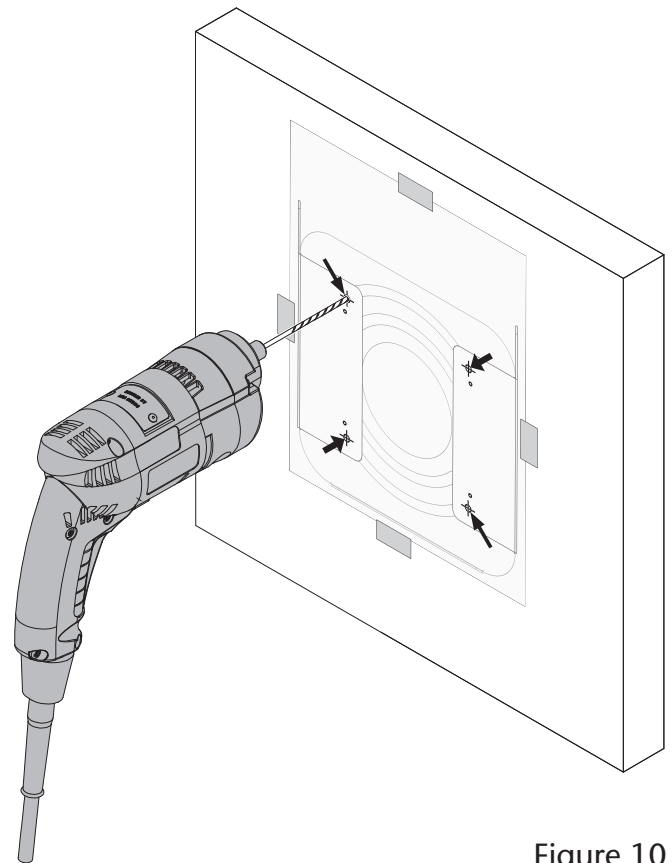

Figure 10
2. Using a level to ensure it is placed correctly, position the drill template (last page of this document) on the wall, and then secure it with tape as shown (Figure 10).
3. Holding the drill level, drill four holes through the drill template as shown (Figure 10):